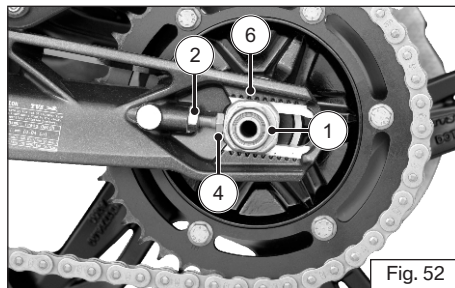

Fig. 52
- ◆ Loosen the rear axle nut (1) using a proper spanner from the tool kit (ref. Fig. 52).
- ◆ Release the lock nuts (2 & 3) (ref. Fig. 52 & 53) using proper spanner from the tool kit (ref. page 103).
- ◆ Turn the adjuster screws (4 & 5) 'in' or 'out' to obtain the specified slackness in the chain (ref. Fig. 52 & 53).
- ◆ Similarly, tighten the rear axle nut and lock nut to the specified torque, and check and ensure the chain slackness (ref. Fig. 52 & 53).